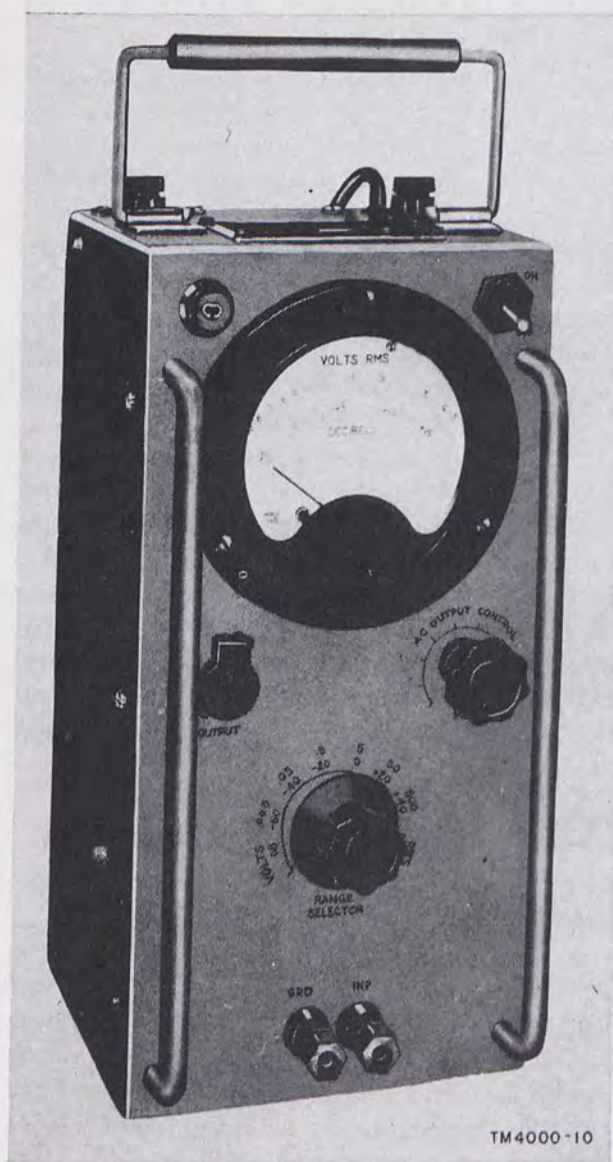
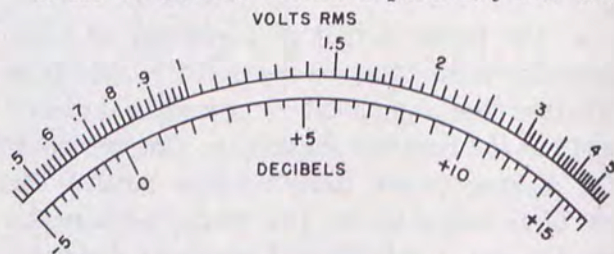

Figure 21. Ac electronic multimeter.
Figure 22. Meter face, showing nonlinear db scale.
with audio frequencies usually have a db scale in addition to the voltage scales. This makes it convenient to make power output measurements when the power level is given in db. An ac voltmeter having a db scale is shown in figure 21. The scales are shown more clearly in figure 22. The voltmeter uses a nonlinear scale for voltage measurements and a nonlinear scale for db measurements. The range of the meter can be changed in 20-db steps by using the selector switch on the panel.
b. The meter shown in figure 21 is calibrated to read directly in db when the meter switch is set to the 0-db range and is connected across a load resistance of 600 ohms. A common reference for db measurements is 1 milliwatt (mw) across a load resistance of 600 ohms, and is taken as 0 db. This corresponds to a value of .775 volt. When using the db ranges, a correc-